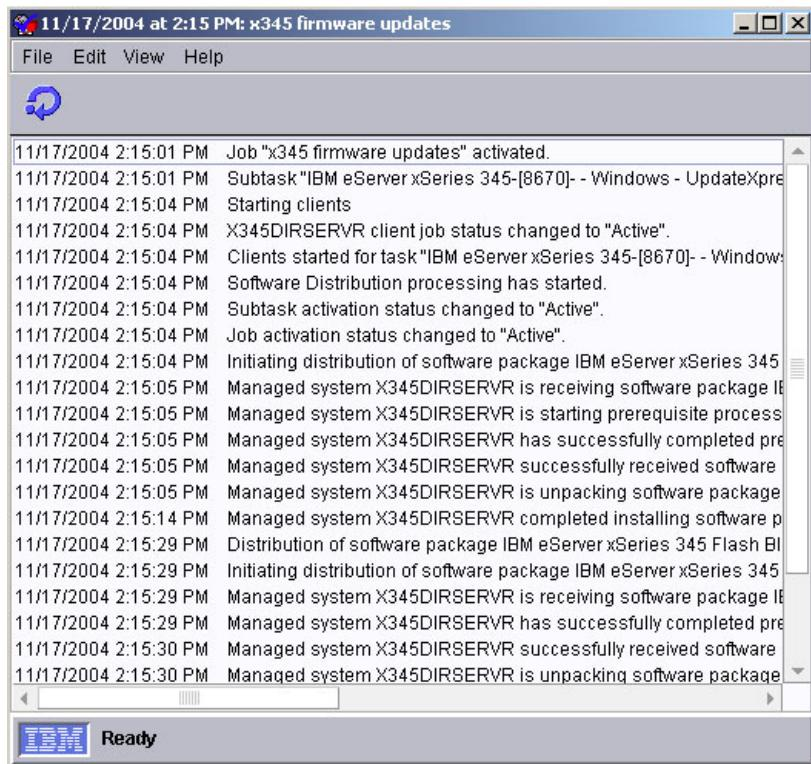

Figure 7-22 Viewing high detail for job execution history
28. This will open up the job execution history. The viewing detail is set to low by default, but you can change this to be high detail by selecting **View → Detail → High**. You will then receive the complete breakdown of the execution history, as seen in Figure 7-22 on page 266.